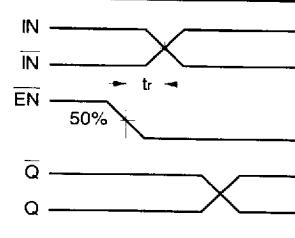

Figure 3. Release Time
7. The release time is the minimum time that EN must be de-asserted prior to the next IN/ \bar{IN} transition to ensure an output response that meets the specified IN to Q propagation delay and output transition times (see Figure 3).